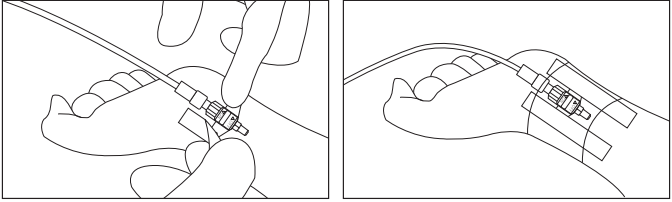

Figure 11
13. Stabilize and secure RadialFlo™ with a sterile dressing (see Figure 11).